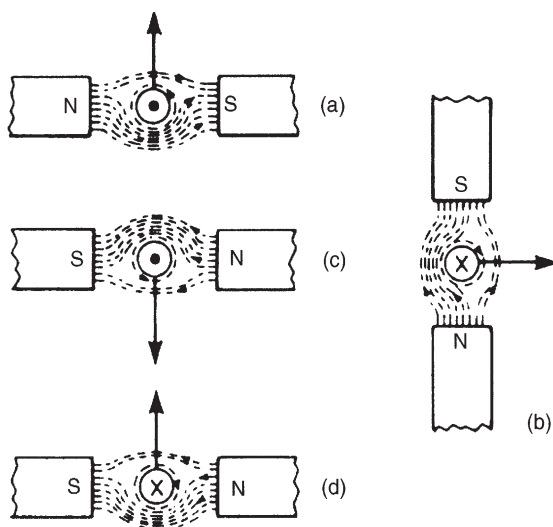

Figure 8.16
- The direction of the main magnetic field is from north to south, i.e. left to right. The current is flowing towards the viewer, and using the screw rule, the direction of the field is anticlockwise. Hence either by Fleming's left-hand rule, or by sketching the interacting magnetic field as shown in Fig. 8.16(a), the direction of the force on the conductor is seen to be upward.
- Using a similar method to part (a) it is seen that the force on the conductor is to the right – see Fig. 8.16(b).
- Using Fleming's left-hand rule, or by sketching as in Fig. 8.16(c), it is seen that the current is towards the viewer, i.e. out of the paper.
- Similar to part (c), the polarity of the magnetic system is as shown in Fig. 8.16(d).